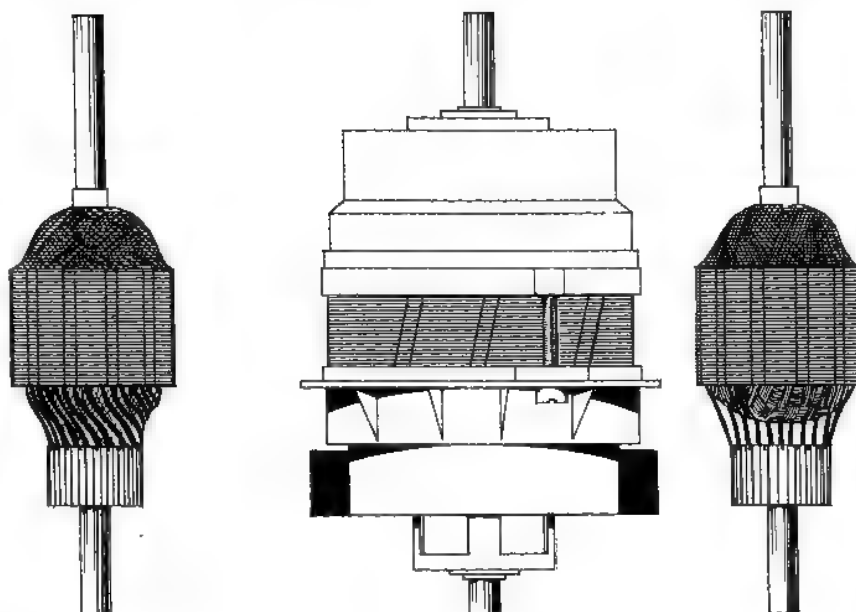

Fig 2
**Fig. 2** Current production armatures have the wires connected to the commutator segments directly in line with the point at which they emerge from the armature laminations.
A motor containing a current type of armature is illustrated in Fig. 2 and the special features are:
- 2) Pull wiring tag 'A' out of the brush holder, turn the field assembly in a clockwise direction until it assumes the position shown in Fig. 2.
- 3) Re-connect the field coil lead to the brush-holder as shown in Fig. 2 'B'.